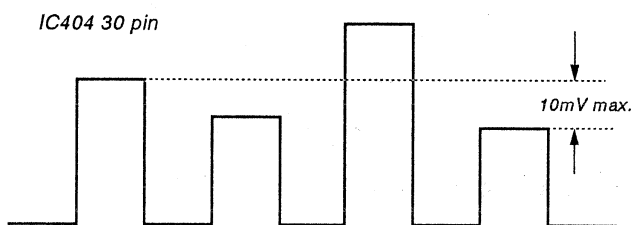

Fig. 16
- 4) Using **CHROMA NTSC 358 NOR**, adjust so that the tops of the waveform line up as in the diagram below. (Fig. 16)
- 2) Adjust **CHROMA NTSC 358 ACC OFF** in the same manner as 8.-4 above. (Fig. 16)